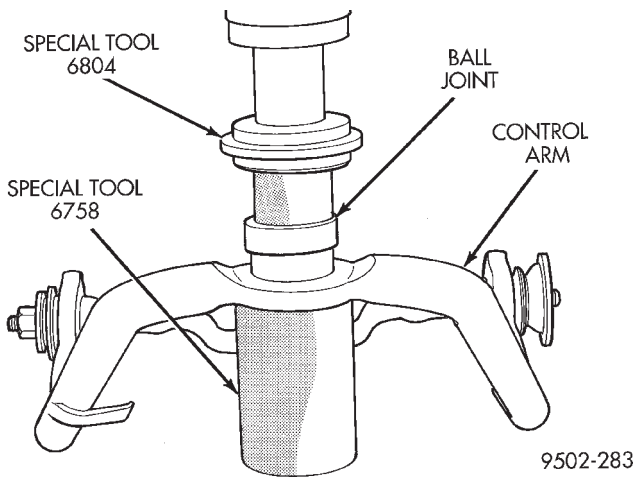

Fig. 32 Installing Ball Joint In Upper Control Arm
(1) By hand, position ball joint assembly into ball joint bore of control arm. Be sure ball joint assembly is not cocked in the bore of the control arm, this will cause binding of the ball joint assembly, when being pressed into lower control arm.
(2) Position assembly in an arbor press with Receiving Cup, Special Tool 6758 supporting lower control arm (Fig. 32). Then install Remover/Installer,
Special Tool 6804 on the top of the ball joint assembly (Fig. 32).